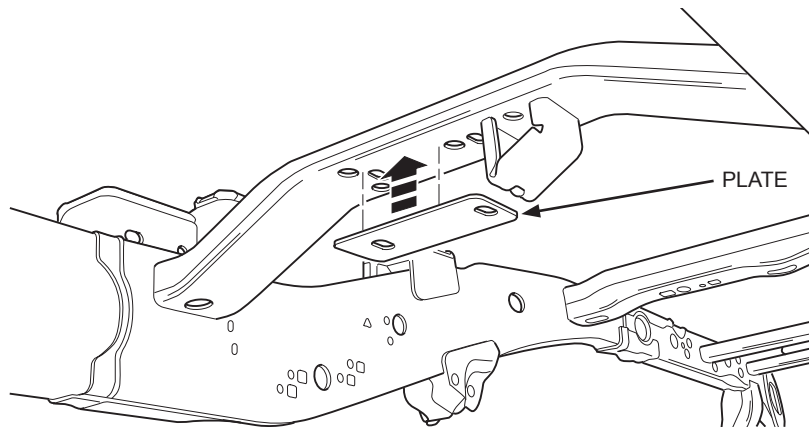

FIGURE 5 – INSTALL REINFORCEMENT PLATE IF REQUIRED
4. Perform final measurements, then solid weld the new bracket to the frame cross member following the weld procedure on page 3. (Refer to Figures 5 thru 8).
- g. Perform final measurements, then solid weld the reinforcement plate to the frame cross member following the weld procedure on page 3. (Refer to Figures 5 thru 8).